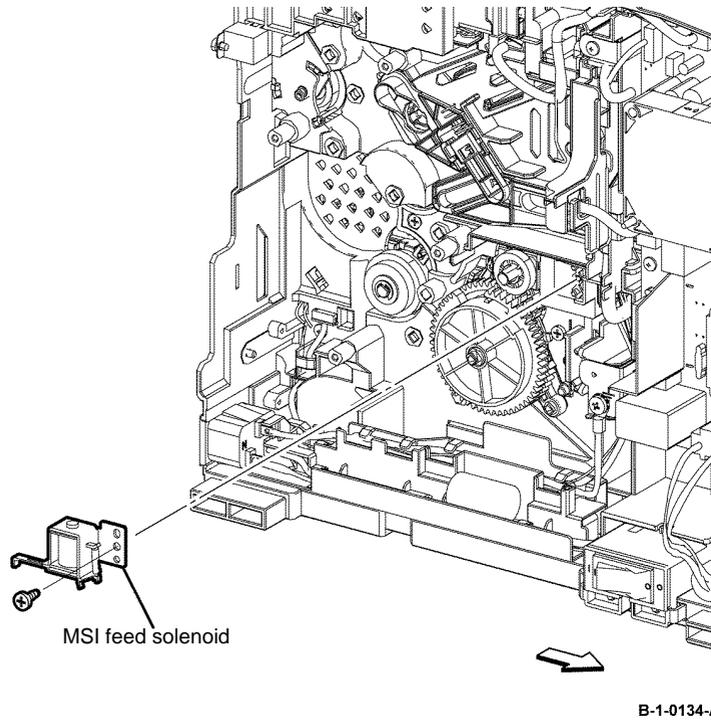

Figure 2 MSI feed solenoid removal
16. Remove one screw (silver, tapping, 8mm), then remove the MSI feed solenoid, Figure 2.